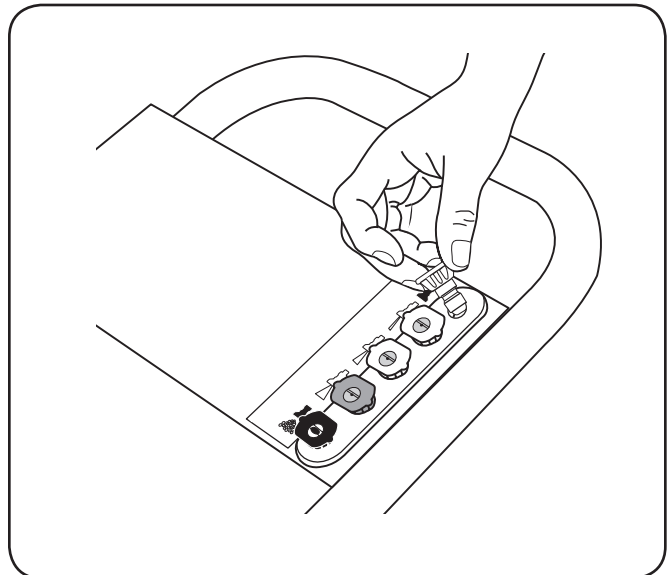

Figure 3-2
1. Remove the colored quick-connect nozzles from the plastic bag and insert them into correct grommet on the nozzle holder. Nozzles are color coded to match colored nozzles on label. See Figure 3-2.